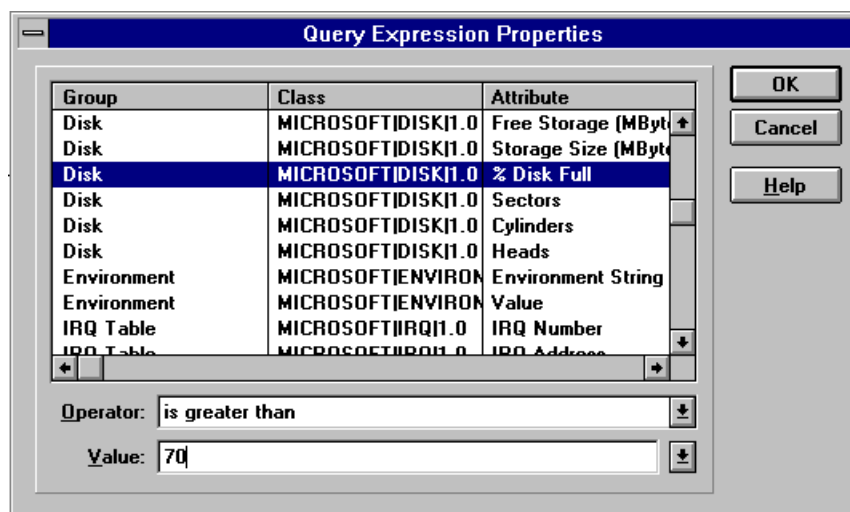

Figure 6-10. Finding the % Disk Full attribute
6. Scroll through the list until you find the *% Disk Full* attribute. An example of the Query Expression Properties window is shown in Figure 6-10.